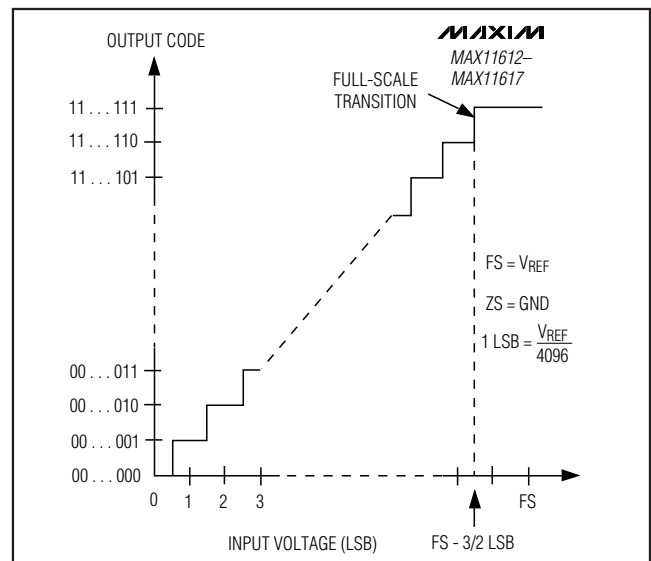

Figure 12. Unipolar Transfer Function
Output data coding for the MAX11612-MAX11617 is binary in unipolar mode and two's complement in bipolar mode with $1\text{ LSB} = (V_{REF}/2N)$ where N is the number of bits (12). Code transitions occur halfway between successive-integer LSB values. Figures 12 and 13 show the input/output (I/O) transfer functions for unipolar and bipolar operations, respectively.